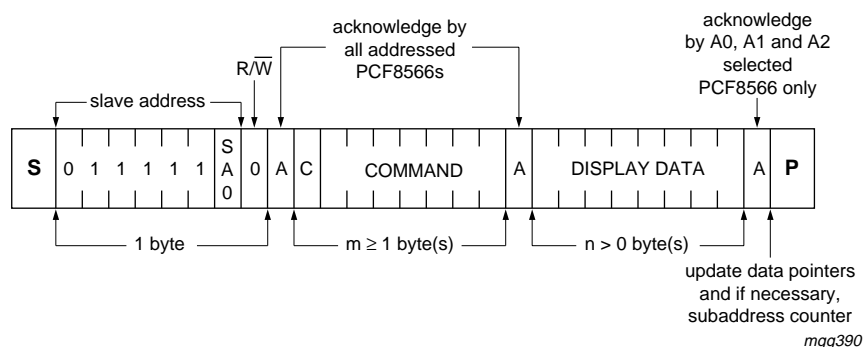

Fig 17. I²C-bus protocol
The I²C-bus protocol is shown in Figure 17. The sequence is initiated with a START condition (S) from the I²C-bus master which is followed by one of the PCF8566 slave addresses. All PCF8566s with the same SA0 level acknowledge in parallel to the slave address. All PCF8566s with the alternative SA0 level ignore the whole I²C-bus transfer.